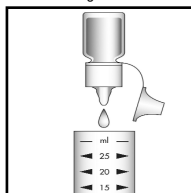

Figure 2
2. Add 2 drops of A-8500 Activator Solution (fig 2). Cap the sample cup and shake it to mix the contents.